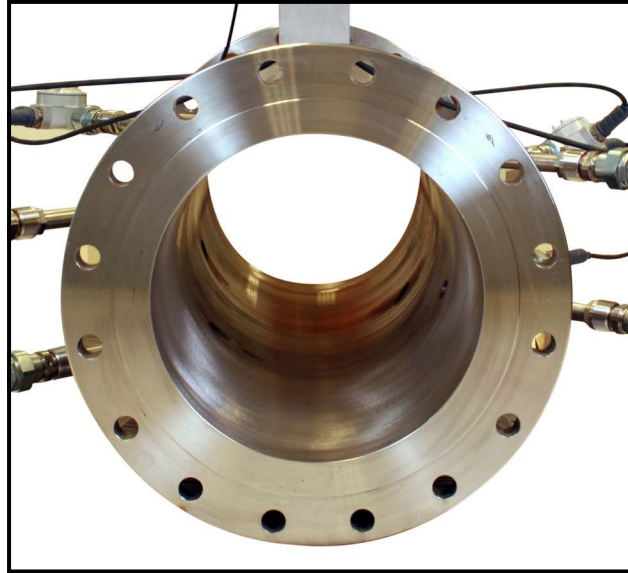

Figure 10: Sentinel End View - Mounting Flange
3. Align the flange mounting holes (see *Figure 10* below).